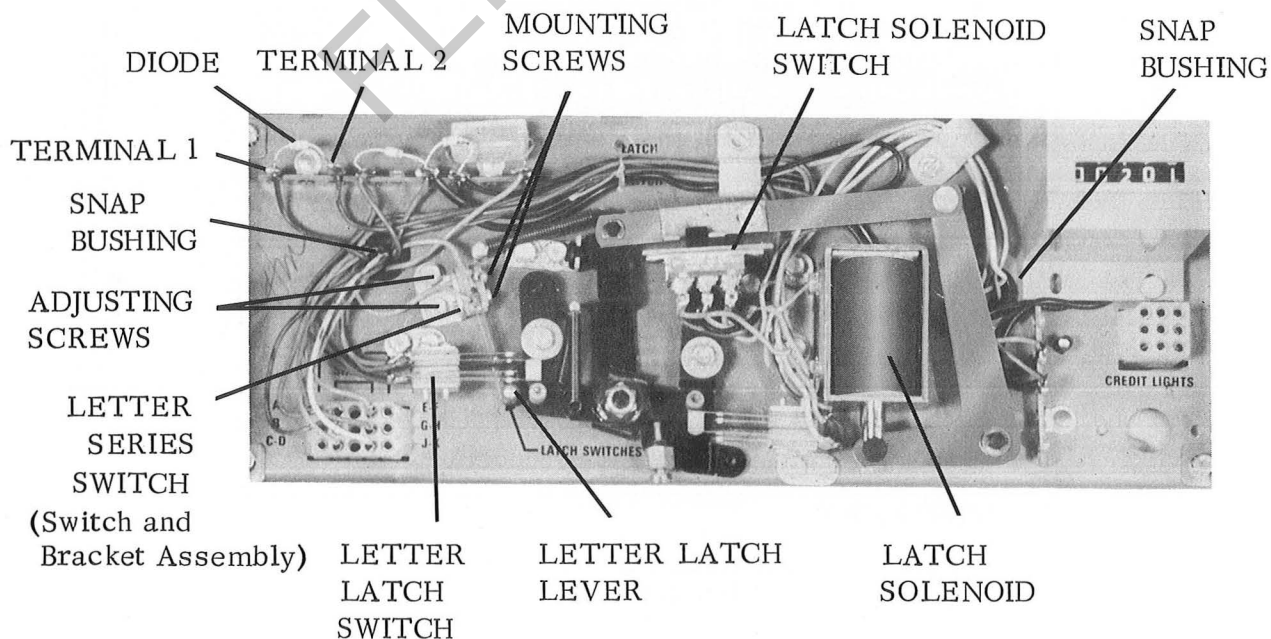

Figure 2
1. Install Switch and Bracket Assembly, Part No. 66007, on mounting plate of Selector Switch Assembly, with two Screws, Part No. 76902-34, as shown in Figure 2. DO NOT tighten screws at this time.
3. Connect this wire to TERMINAL 1 on Terminal Strip as shown in Figure 2. DO NOT solder at this time .
5. Route this wire through Cable Clamp and connect end of wire to TERMINAL 2 on Terminal Strip as shown in Figure 2. DO NOT solder at this time .